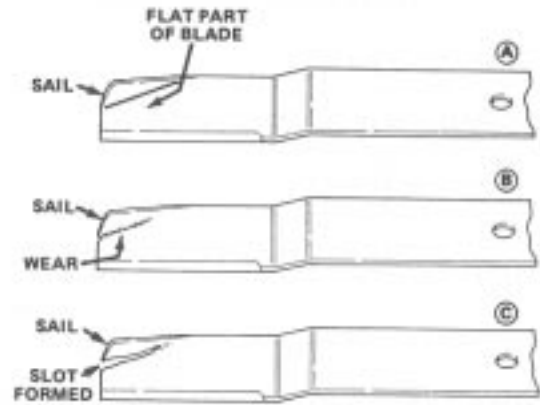

Figure 61
2. Carefully examine cutting ends of the blade, especially where the flat and sail (curved part) meet (Fig. 61-A). Since sand and abrasive material can wear the metal connecting the flat and sail portions, check the blade before using the machine. If any wear is noticed (Fig. 61-B), replace the blade; refer to Removing the Cutting Unit Blade, page 48.